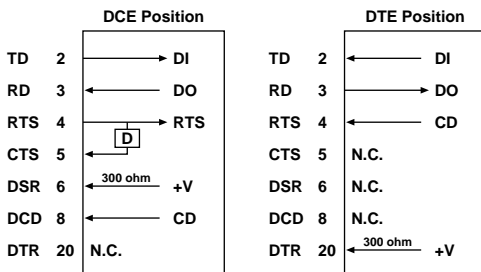

Figure 3-2. DTE/DCE Switch Operation.
3. The Modem is factory-set for DCE. For DTE operation, move the switch to the DTE position (see **Figure 3-2**).